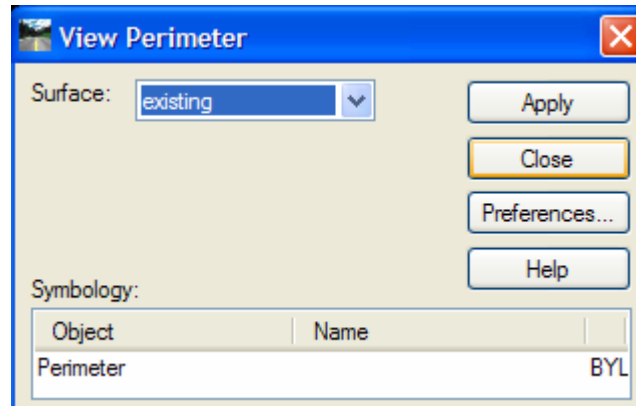

Figure 2-1 InRoads View Perimeter Dialog Box
- B. On the InRoads Main Menu Bar click on **Surface>View Surface >Perimeter** (Figure 2-1).